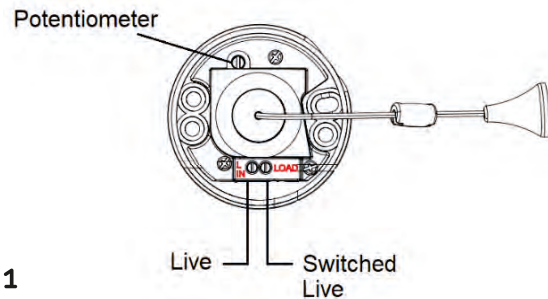

Fig. 1
- Ensuring correct polarity is observed, carefully wire as follows: L – L IN, Switched Live – LOAD (see Fig. 1). Check all connections are tight with no loose strands outside the terminals
If flicker can be seen in the dimming range at the lowest point, this can be eliminated by adjusting the potentiometer dial on the back of the unit (see Fig. 1)